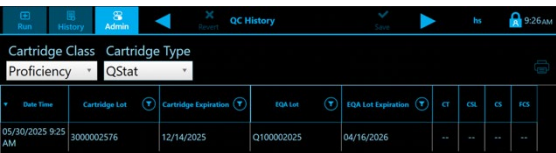

Figure 16. Steps 6, 7 Quantra Reference Screen.
7. Use the **Date/Time** and **EQA Lot** Columns to distinguish your results (Figure 16).